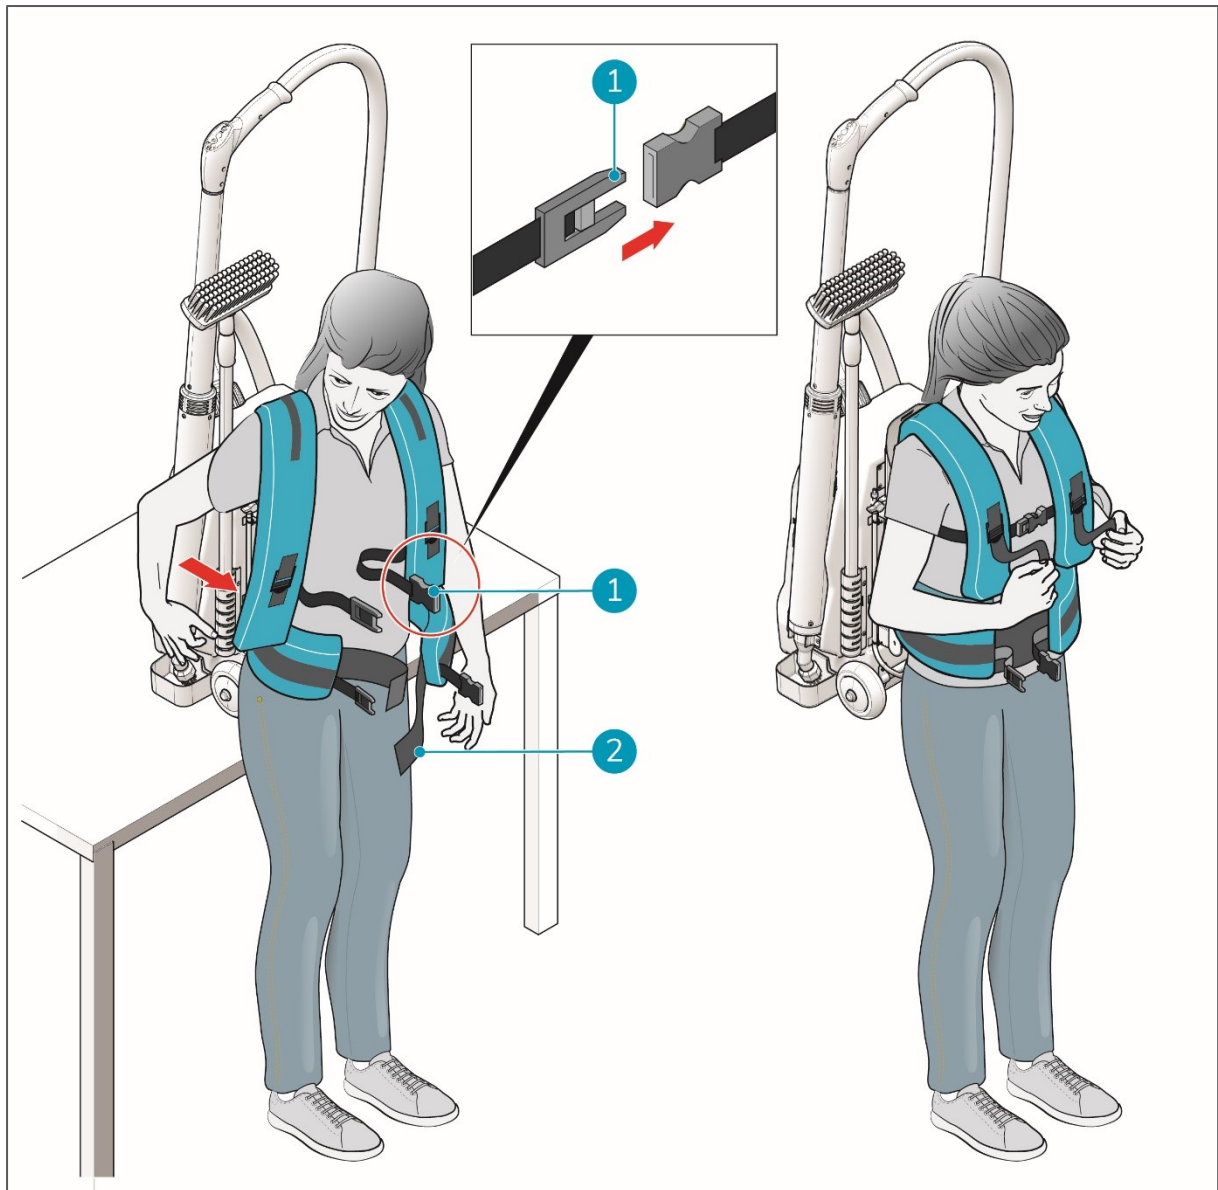

Figure 18
3. Release the straps (fig 18, pos 1) of the harness to their maximum size.
6. Adjust waistband (fig 18, pos 2) and straps (fig 18, pos 1) for comfort.